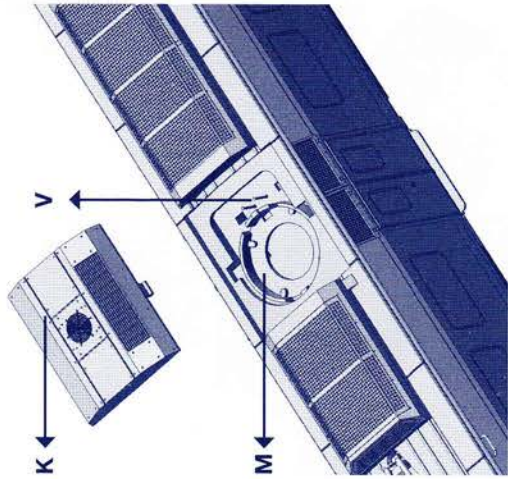

Figure 5
The loudspeaker (Fig. 5) is intended to be installed in the roof area under the air-conditioning cover (K). This part is only clicked into place on the roof. The air-conditioning unit is easy to remove from the roof and can be pulled off vertically. The loudspeaker (d = 16 mm) can be clipped into the mount (M). You can connect the loudspeaker itself to two pins (V) soldered on the circuit board.